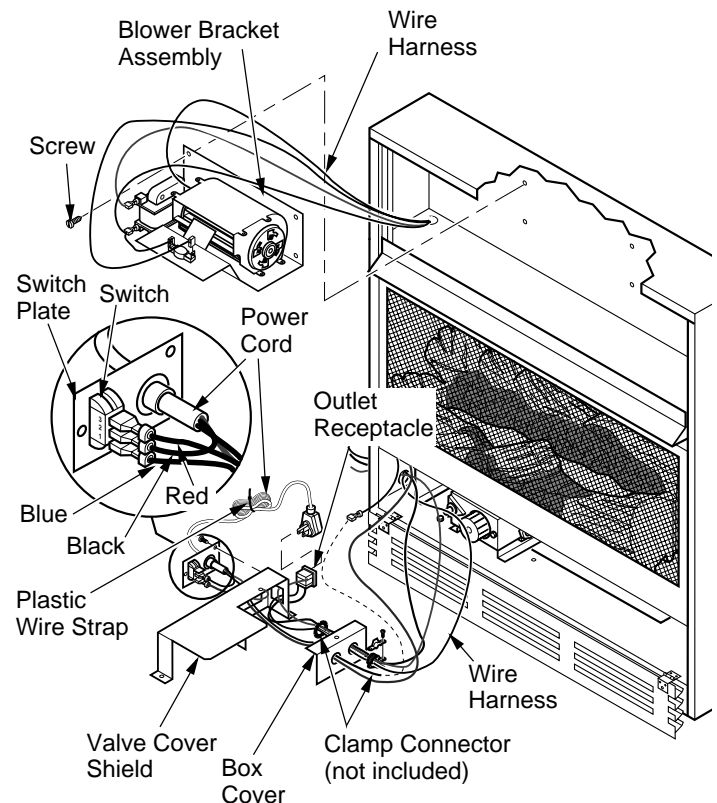

Figure 27 - Installing Blower Bracket Assembly
5. Plug power cord to the outlet receptacle (not provided) as shown in Figure 27. Wind the extra cable in power cord and tie it up with the plastic wire strap (see Figure 27). Set the cable bundle between the burner bracket and outer casing, away from the burner.